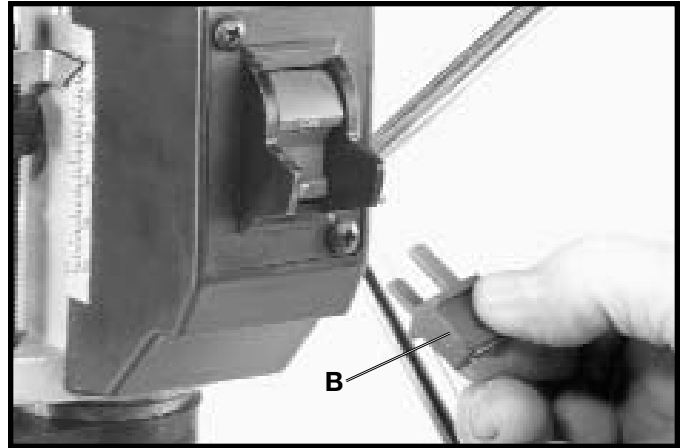

Fig. 19
When the tool is not in use, the switch should be locked in the “OFF” position to prevent unauthorized use of the tool. To lock the switch in the “OFF” position, grasp the switch toggle (B) and pull it out of the switch, as shown in Fig. 19. With the switch toggle (B) removed, the switch will not operate. However, should the switch toggle be removed while the drill press is operating, the switch can be turned “OFF” once, but cannot be restarted without inserting the switch toggle (B).